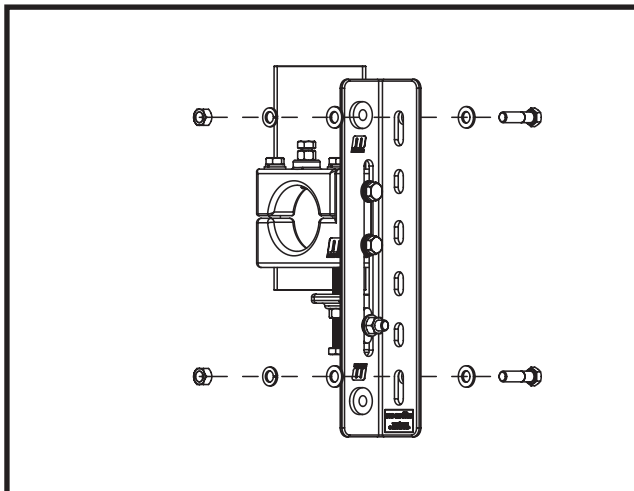

Figure 6. Martin® P2 Secondary Belt Cleaner HD Far Bolt Tensioner Mount Bracket Hardware
2. Repeat for far side mount bracket. (Refer to Figure 6.)